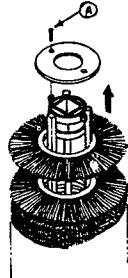

FIGURE 3
As a general rule broom head levelness should be checked every day before operating. (See Figure 3, page 5-4)
4. Stand core on end with removable cap plate end up. Remove the (4) flat head capscrews (A. In Figure 3) and the cap plate.
2. Set the broom horizontal level contact (See Front View - Fig.3). Loosen the 5/8" lock nuts (one on each side of the pivot bearings). Lift up or push down on Broom Motor to achieve uniform brush contact to the surface across entire length of broom.